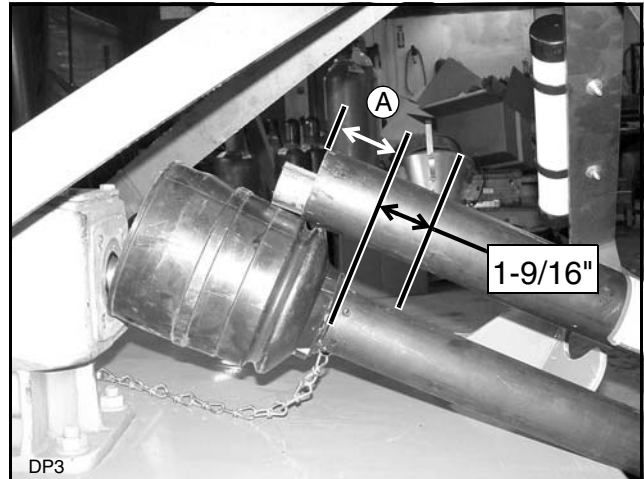

Figure 28. Determine Shield Length
- Measure from the end of the upper shield to the base of the bell on the lower shield (A). Add 1-9/16" to dimension (A). See Figure 28.